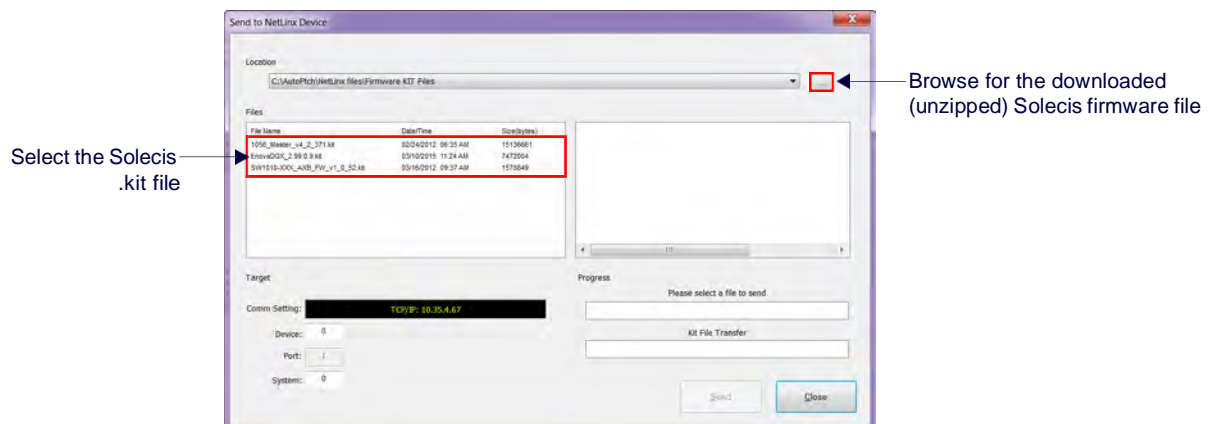

FIG. 157 NetLink Studio - Send to NetLink Device dialog
4. Select Tools/Firmware Transfers/Send to NetLink Device. The *Send to NetLink Device* dialog appears (FIG. 157):